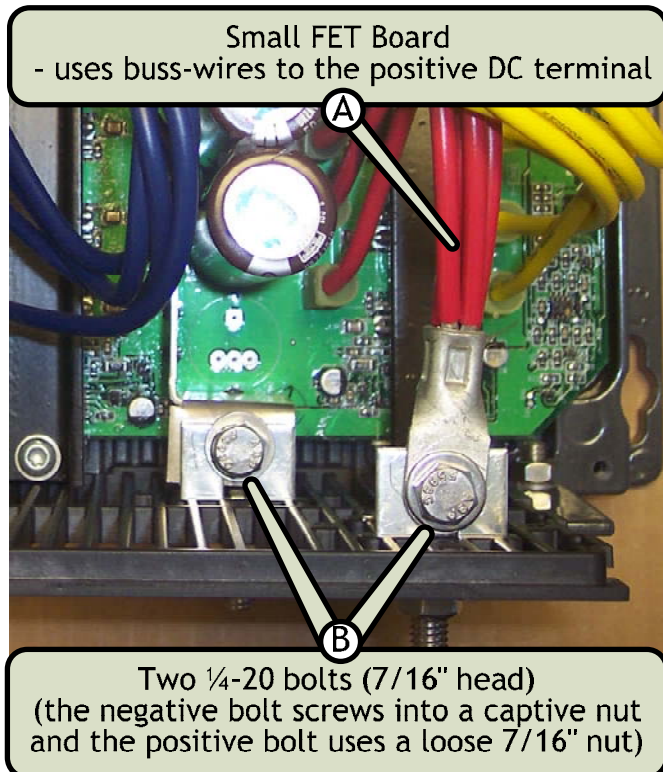

Figure 2, DC Terminal Plate to Small FET Board
3.1.3 Remove the two 1/4-20 bolts (7/16" head) on the back of the DC terminal plate (see figures 2 and 3).
3.2.4 Connect the new DC terminal plate to the DC buss-bars/buss-wires using the two ¼-20 bolts (7/16” head). Refer to figure 2 or 3, depending on the inverter’s FET board. Torque these connections to 130 in. lbs.